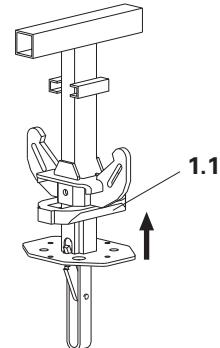

Fig. 4
2. Push drophead wedge (1.1) upwards. (Fig. 4)